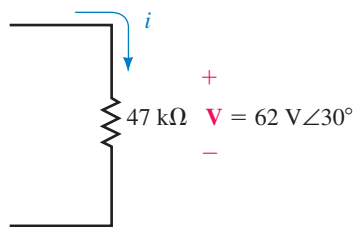

FIGURE 18-78
3. Repeat Problem 1 for the resistor of Figure 18-78.